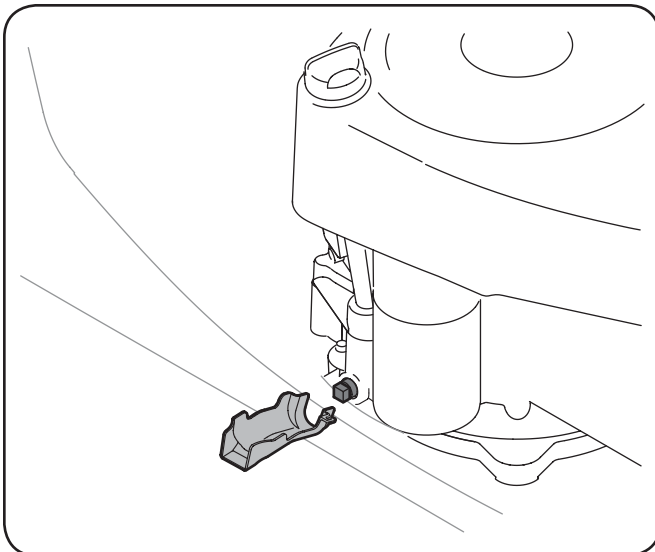

Figure 6-1
4. Snap the small end of oil drain sleeve onto the oil sump. See Fig. 6-1.